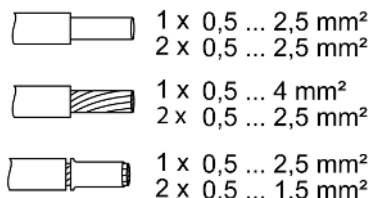

Figure 3: Clampable conductor cross-section
- Make the connection according to the connection diagram. In doing so, note the clampable conductor cross-section (Figure 3).